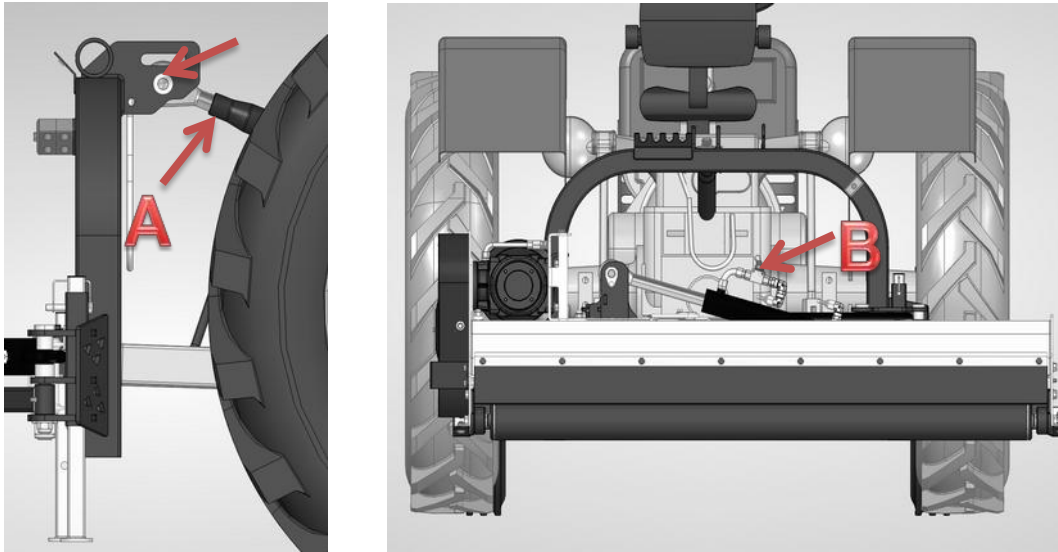
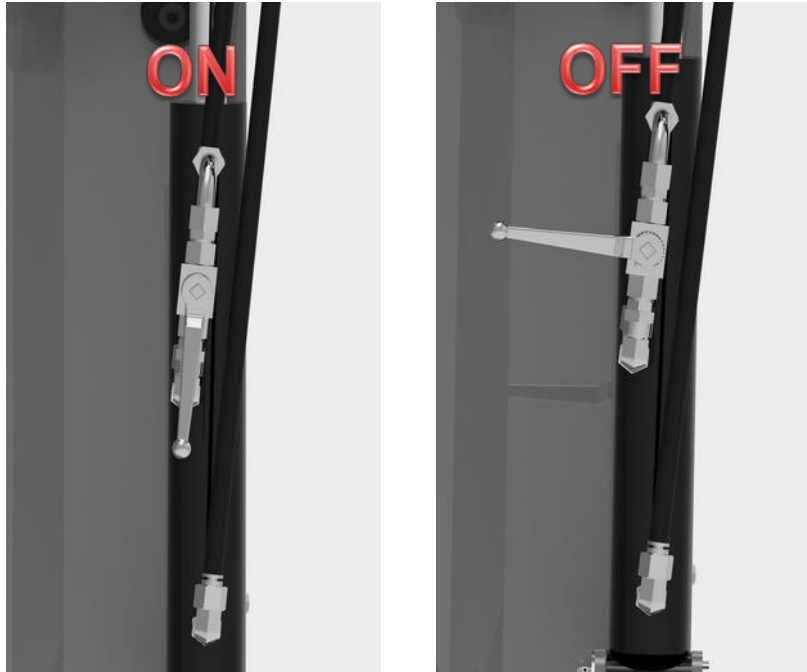

Figure 7. Setting the machine for transport
Figure 8. Position of ball valve during operation and transport
It is also important to ensure that the ball valve is correctly positioned on the actuator during operation and transport of the machine. The correct valve setting is shown in Figure 8.
- Place the central coupling pin (A) in the transport hole shown in Figure 7. In addition, fold the machine into the position shown in the view below.
- If the mower has been fitted with a ball valve on the cylinder, it is important to ensure that it is correctly adjusted during transport and operation. During transport, the valve must always be in the closed (OFF) position and during operation in the open (ON) position, as shown in Figure 8. A ball valve actuator is shown in Figure 7(B).